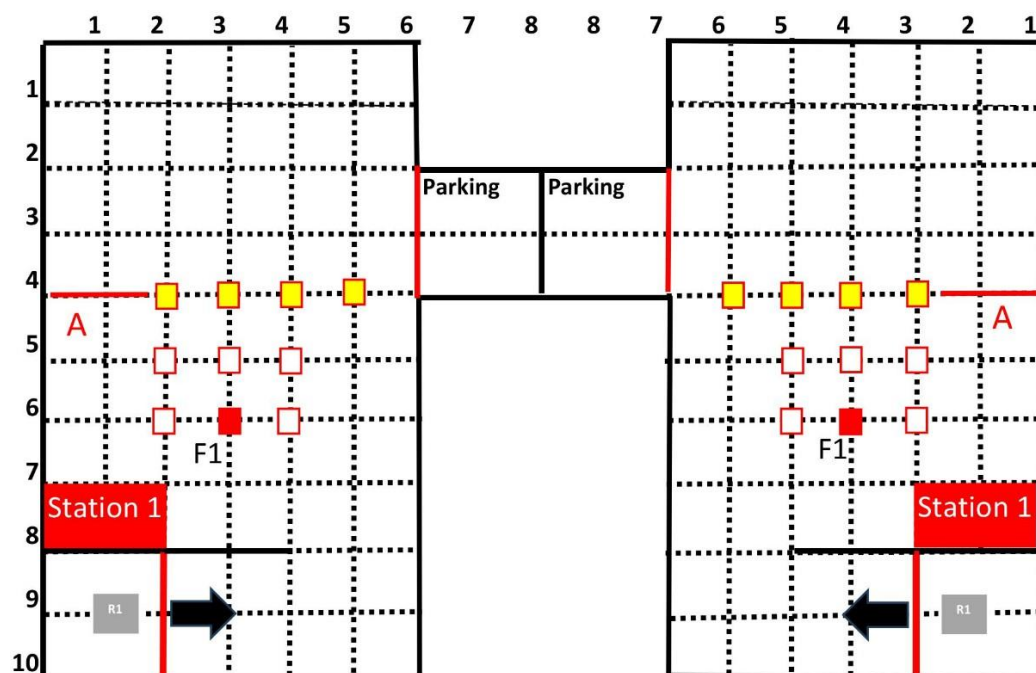

Figure 1: Contest Arena top view
NERC 2025 theme is the continuation of last year's theme where the fruits have grown on the trees. In this theme, the task is to build a modular robot that will pick fruit box on a farm and carry till entering the parking area. The first team to successfully pick the fruit box and reach the parking area will be declared the winner. The Contest Arena, depicting a complete farm where the fruit box pick is to be conducted, is shown in Figure 1. Details are as follow:
1. Laminated wooden sheets (lasani) are used for the construction of the arena. The floor of arena will be of white color as shown in the map (Fig. 1). All the boundary walls and separation walls have a height of 5 inches throughout the arena. The solid line made with black tape of 3cm width (Dotted Line in Fig 1) present on the floor of arena can be used for line tracking. The entire arena is divided into 12x12 inch grids.
2. The starting position and orientation of the robots are fixed. The robot must be placed behind the starting line shown in Fig. 1 with red color. The complete robot should be behind the line. The red colored line is only for reference in Fig. 1, it will be a solid black colored line on actual arena.
4. The fruit box is placed at F1 location of the arena (shown by red box at (6,3) location in figure 1) and the placement of fruit box is fixed. The details of the fruit box are provided as Annexure A.
6. After successful collection of fruit box, the robot will move towards the Parking spot as marked in the arena shown in Figure 1. However, after picking the fruit box, the robot must cross the highlighted region/red line on row 4 (labelled as A for reference only). Failure to cross checkpoint A shall result in a forced retry. The red line labelled as A in row 4 is only present in Fig 1 for reference, it will not be present on actual arena.
7. The robot must avoid yellow-colored boxes (figure 1) that represent obstacles present in the arena. The dimension of obstacles is 5x5x5 *inches*. The robot cannot go through the obstacles.
9. The team to successfully complete all the tasks and reach the parking spot will be declared the winner. A successful "reach" means all the parts of the robots have crossed the parking entrance line (represented with red color in Fig.1) and no part is on and above the line. The red colored line is only for reference in Fig. 1, it will be a solid black colored line on actual arena.
- *Robot must cross the region/red line labelled as A (label and red line are made in Fig 1 for reference only).*